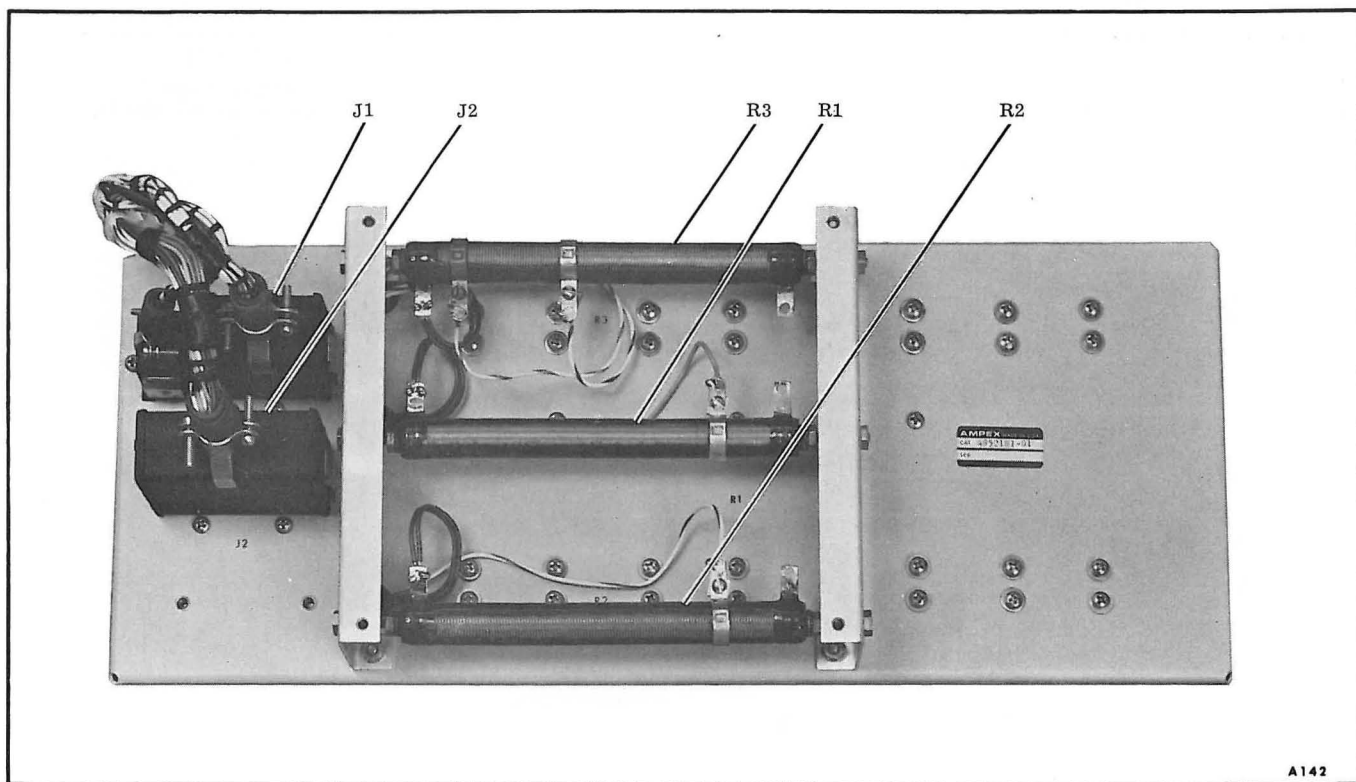

Figure 6-6. Tension-Adjust Resistors
(See Figures 6-6 and 6-7)
6-19 PLAY TAKEUP TENSION (See Figures 6-6 and 6-7)
**6-21 BOOST TORQUE** (See Figure 6-6)